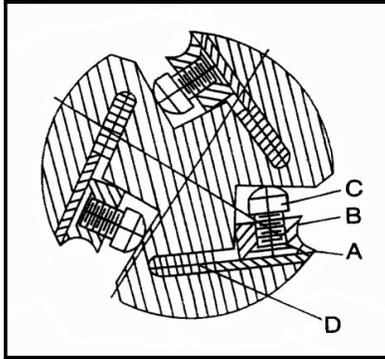

Fig. 6
1. Release lock screws (C) on knife (A) and knife gib (B) Fig. 6.
3. Remove two springs (D) placed below the knife (A).